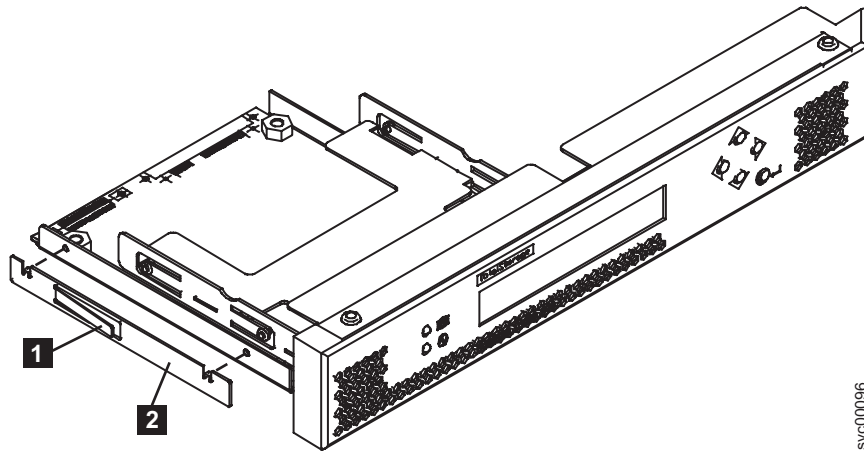

Figure 49. SAN Volume Controller 2145-8F2 service controller
1. Place the retention clip **2** over the locating holes on the left side of the service controller. See Figure 49.